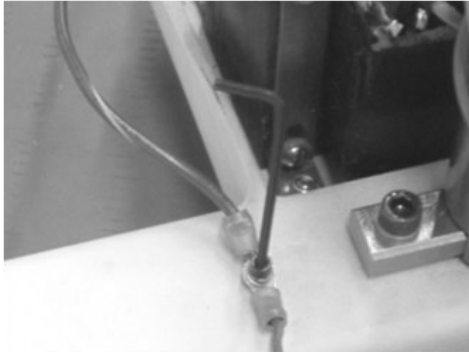

Figure 11: Ground connections.
16. Align the green and yellow ground spade coming out of the post with the green and yellow ground ring already connected to the base. Align them both with the same hole on the base as before, and re-fasten in the same location. See Figure 11.